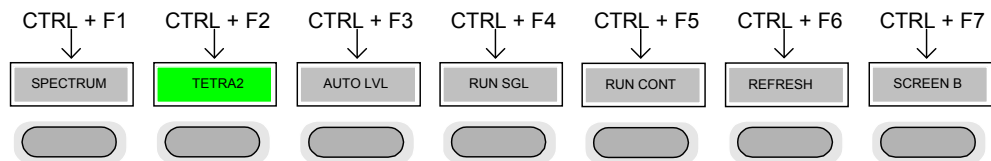

Fig. 4 Quick Access to Hotkeys
CTRL keys Used to activate hotkeys. Each of the seven hotkeys is allocated a different function (F) key. To access these hotkeys press CTRL and the corresponding F key together (see Fig. 4):